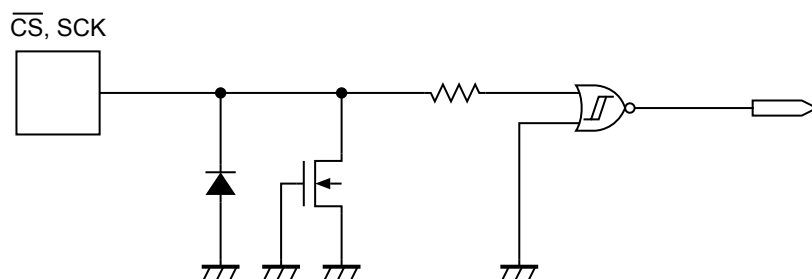
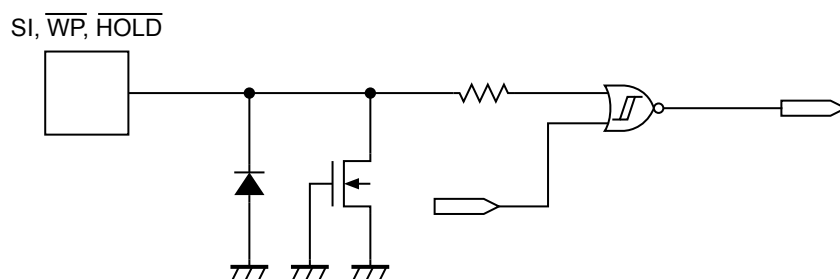

Figure 24  $\overline{\text{CS}}$ , SCK Pin
Figure 25 SI,  $\overline{\text{WP}}$ ,  $\overline{\text{HOLD}}$  Pin
**Figure 24** and **Figure 25** show the equivalent circuits of input pins in this IC. A pull-up and pull-down elements are not included in each input pin, pay attention not to set it in the floating state when you design.